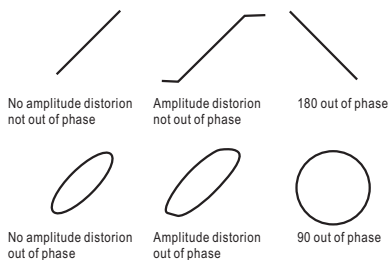

Fig. 17 Typical X-Y Phase Measurement Display
(Refer to Fig.17)
5. If necessary, repeat step 3, readjusting the channel 1 and 2 gain controls for a suitable viewing size. Some typical results are shown in Fig. 17